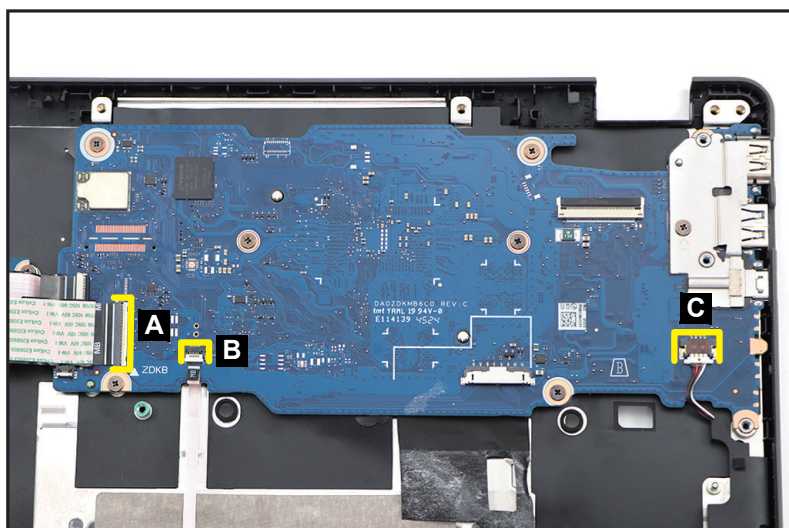

Figure 3-23. Mainboard Removal
1. Disconnect the 36-pin I/O board (L) FFC from the mainboard connector (A) (Figure 3-23).
2. Disconnect the touchpad FFC from the mainboard connector (B) (Figure 3-23).
3. Disconnect the speaker cable from the mainboard connector (C) (Figure 3-23).